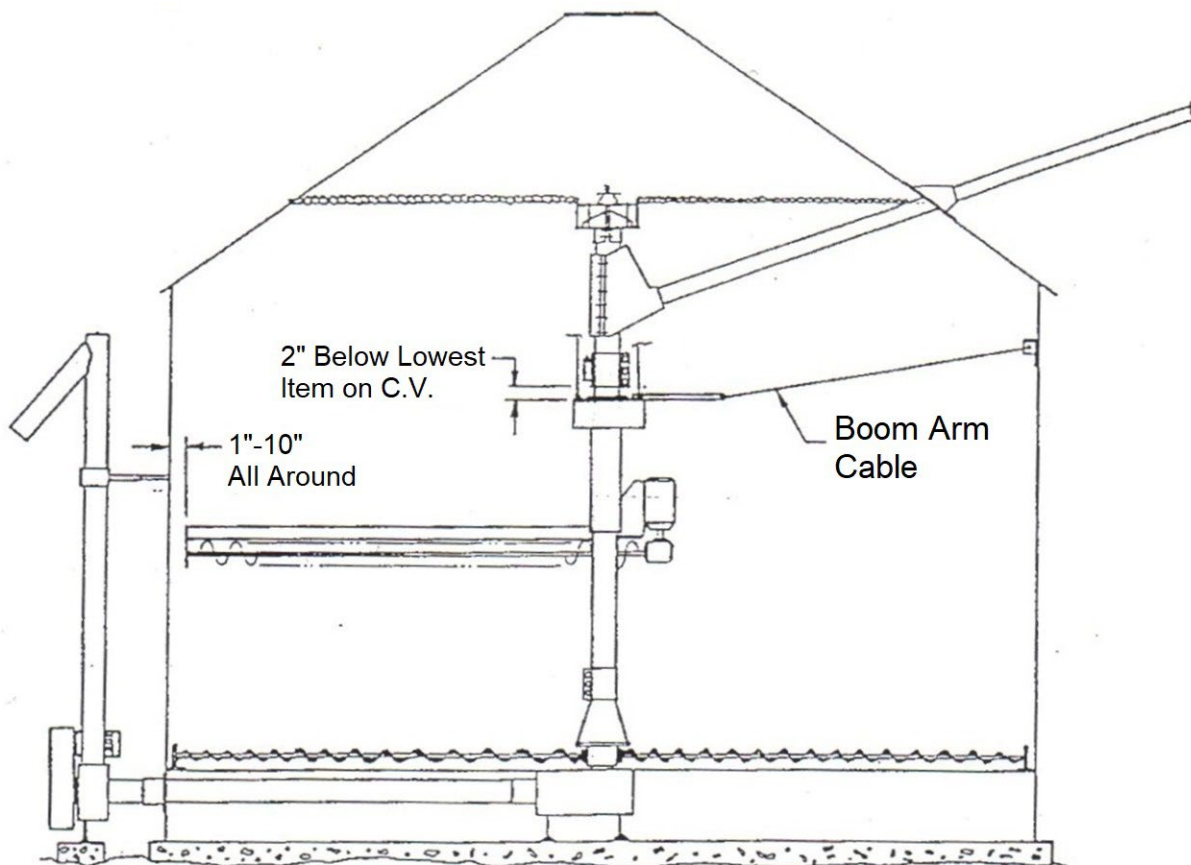

Fig 14.8
**14o. Adjusting the Upper and Lower Limits** (See Fig 14.8). Make sure everyone is clear of the Winch and Cable System.